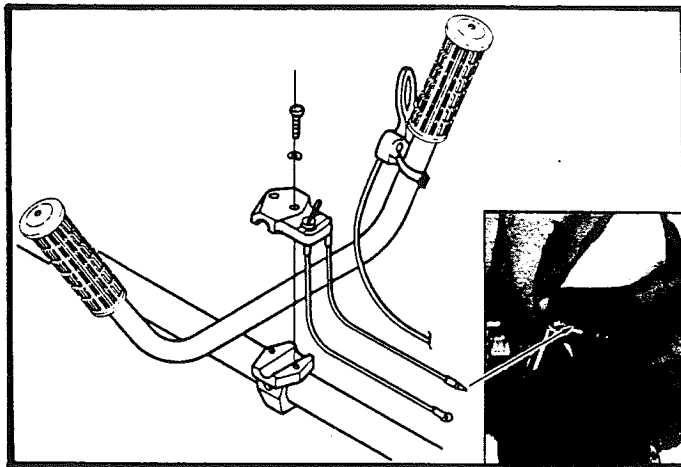

Figure 2
3. Clamp the handle bar to the drive shaft. Connect the toggle switch cord with the cord coming from the ignition coil. Figure 2.